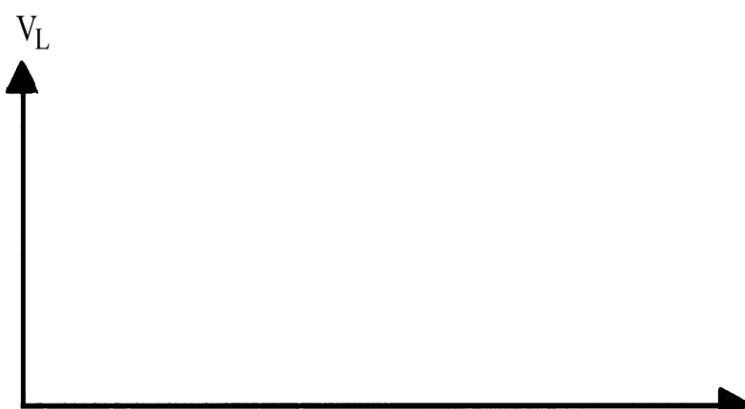

Figure 18
- Draw the output waveform on the axes in Fig. 18 and clearly mark it with 'B'.